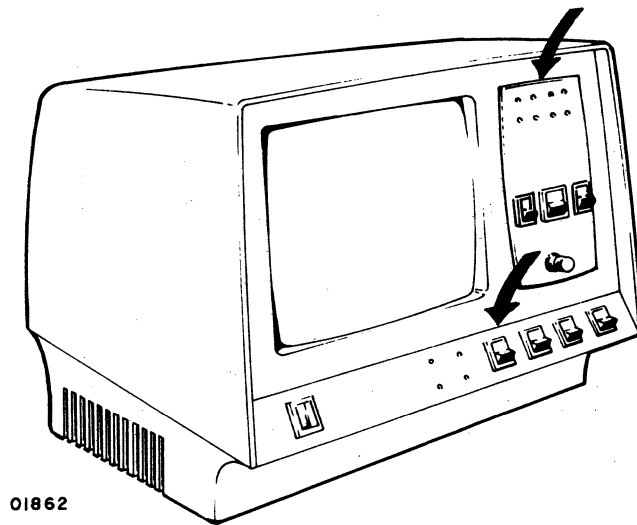

Figure CRT10. LED and Switch Panel Removal
- 2) Separate panel from bezel by inserting fingers under panel and carefully prying panel from bezel chassis (see arrows in figure CRT10).